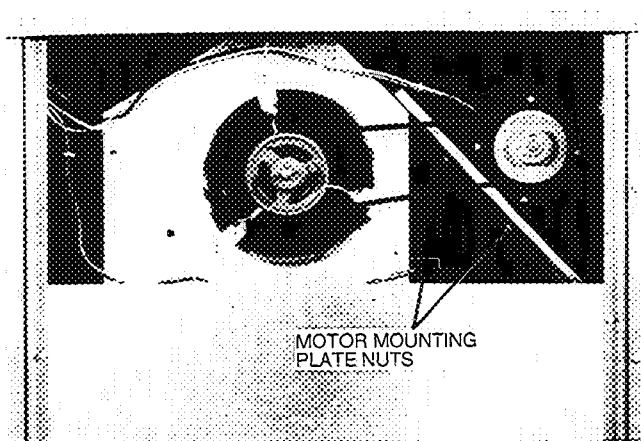
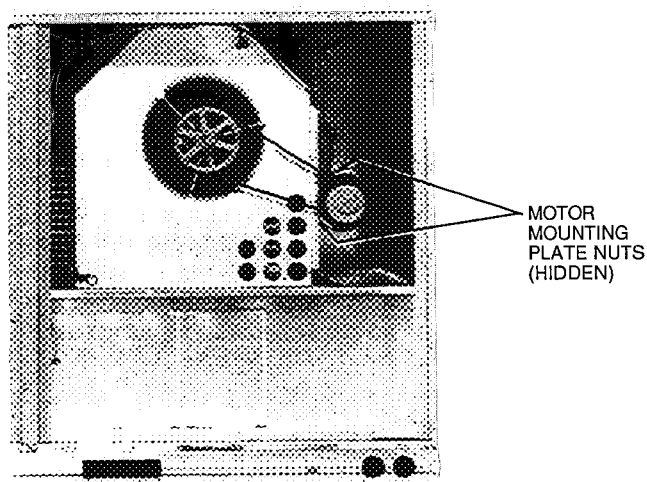

Fig. 22A — Typical Belt-Drive Motor Mounting for Sizes 008,009
Fig. 22B — Typical Belt-Drive Motor Mounting for Sizes 012,014
- Loosen belt by loosening fan motor mounting nuts. See Fig. 22A and 22B.
- Sizes 008, 009 — Slide motor mounting plate away from fan scroll for proper belt tension (1/2-in. deflection with one finger) and tighten mounting nuts (see Fig. 22A). Sizes 012, 014 — Slide motor mounting plate downward to tighten belt tension. Secure motor mounting plate nuts. See Fig. 22B.